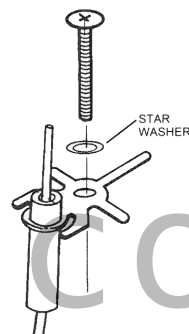

Figure 1
1. Assemble the combination ignitor/sensor assembly by sliding the mounting bolt through the mounting bracket as shown in Figure 1.